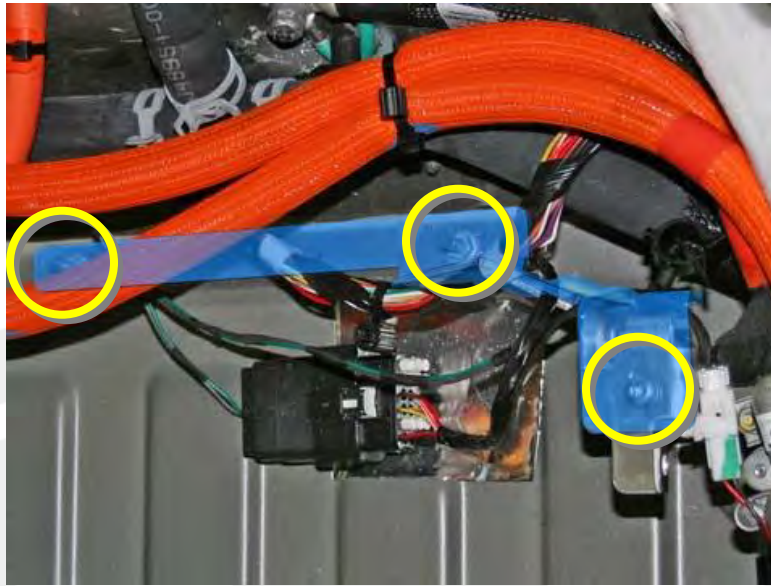

Figure 5 (Bracket highlighted in blue)
6. **Dual Motor Vehicles only:** Release the 1 bolt and 2 nuts that secure the mounting bracket (torque 9 Nm) (Figure 5).